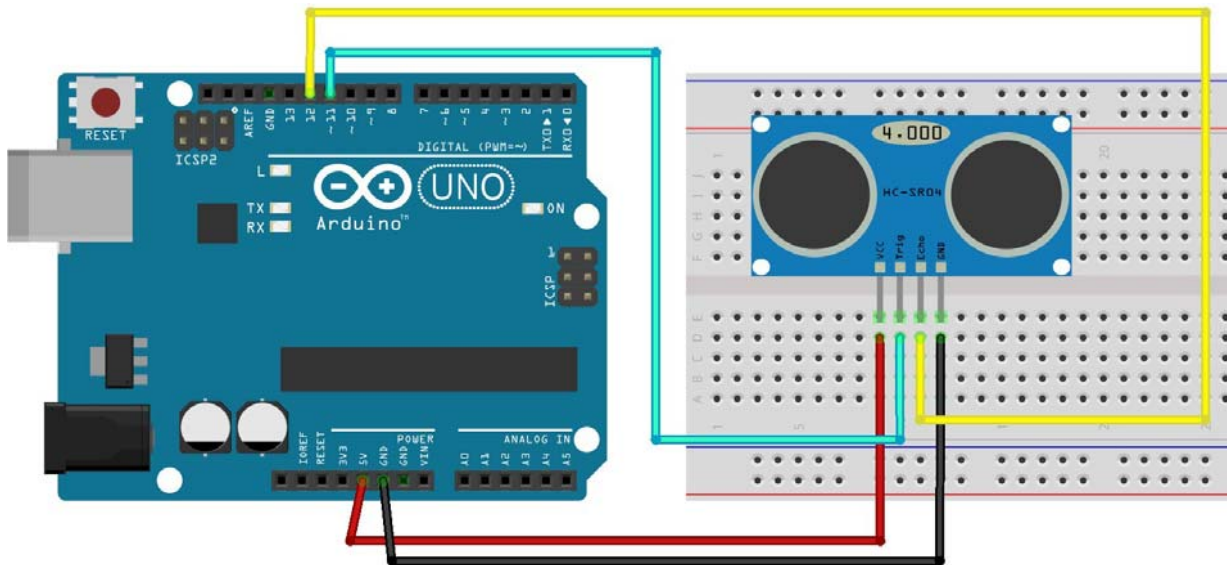

Figure 4. Connecting the PING sensor to the Arduino Uno
- 1- Use the breadboard to connect the sensor to the Arduino Uno according to the below circuit (Figure4)